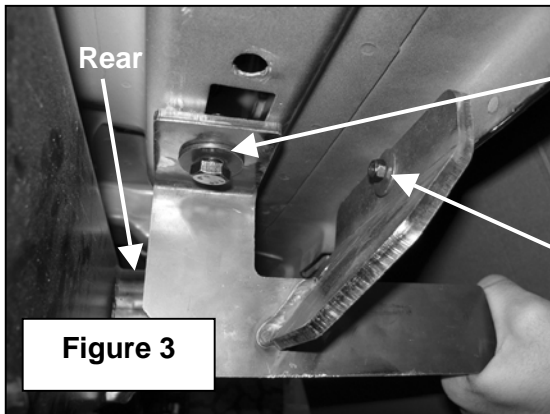
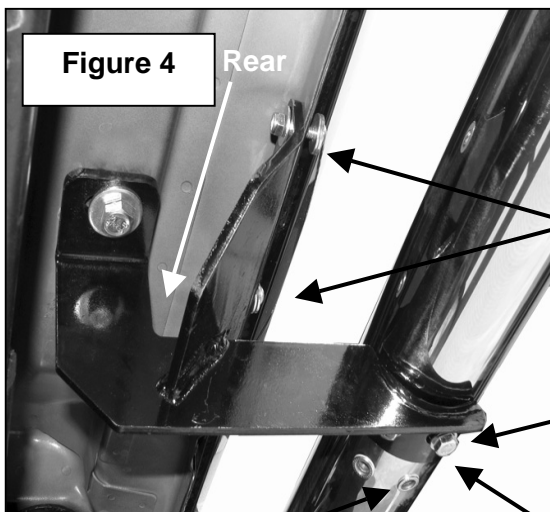

Figure 3
Figure 4
- Repeat steps 2-4 for Rear Driver Side Mounting Bracket. **NOTE:** For the 2007 JK you will only use (1) 6-1.00mm x 25mm Allen Bolt, (1) 6mm Nylock Nut, (1) 6.5mm ID x 18mm OD x 1.6mm Flat Washer (for the out side) and use (1) 6.3mm ID x 23mm OD x 3.2mm Flat Washer (for the inside against the bracket) to attach rear bracket to pinch weld, **(Figure 3)**. For the 2008 JK you will use (2) 6mm Nylock Nuts and related hardware **(Figure 4)**.
6. Position Driver Side Bar onto brackets. Attach Side Bar to Mounting Brackets using the included (4) 8-1.25mm x 25mm Hex Head Bolt, (4) 8mm Lock Washers, and (4) 8mm Fender Washers (**Figure 4**). Do not tighten at this time. **NOTE:** For 2007 JK's you will use the rear mounting holes, and for the 2008 JK's you will use the front mounting holes (**Figure 4**).